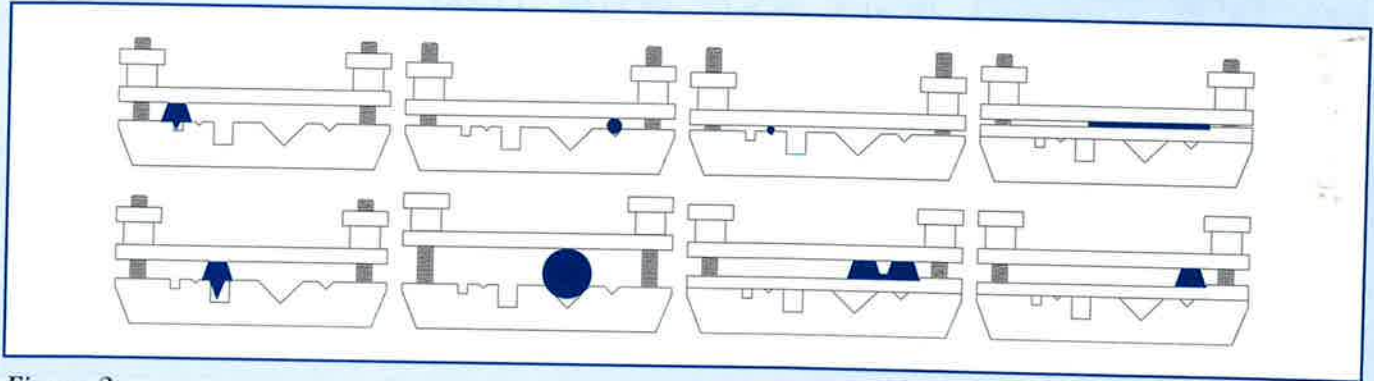

Figure 2
5. Figure 2 illustrates possible belt clamp mounting positions. Starting on one side, loosen the clamp nuts and place belt in desired clamping position. Slide belt in clamp so that the end is halfway between the two mounting clamps. Tighten clamp nuts. Note: For round and ridge top profiles, remove bottom plate.